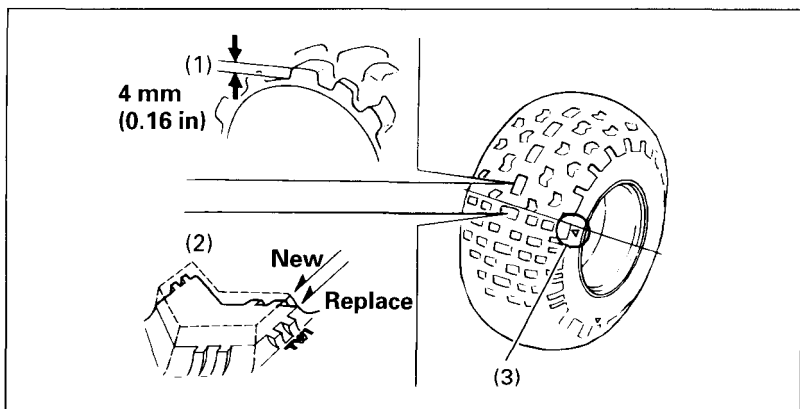

Fig. 4-33
To check the condition of a tire tread, measure the groove depth (1) in the center of the tire, or check the wear indicator (2) as shown in Fig. 4-33.